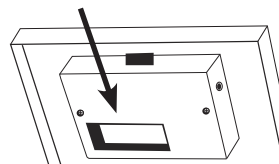

Fig. 4
① Locate the battery cover on the back side of the lid. (Fig.4)
② Slide the cover off the battery compartment.
③ Properly insert batteries, noting correct direction, replace cover and close the Security Box lid.
④ Return the Override Key and the knob to the locked position.